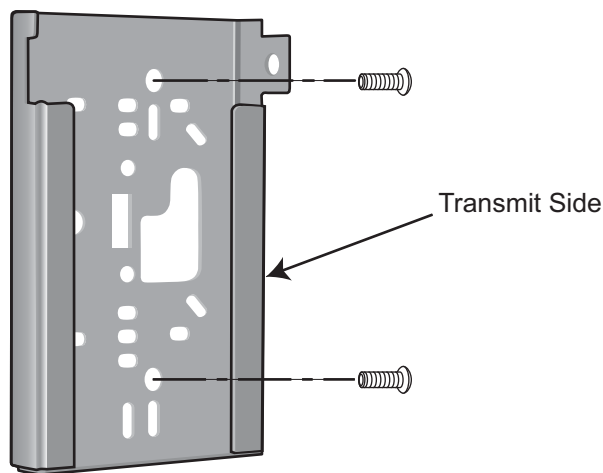

Figure 12 Attach the Mount Bracket
- When mounting the radio node vertically, orient the bracket with the open end on top and the closed end on the bottom. Figure 12 on page 14 shows the proper vertical orientation.
- When mounting the radio node near a wall or other obstruction, orient the bracket such that the radio node transmit side towards the coverage area. In vertical mountings, this is on the right side of the radio node. Figure 12 on page 14 shows the mounting bracket orientation: